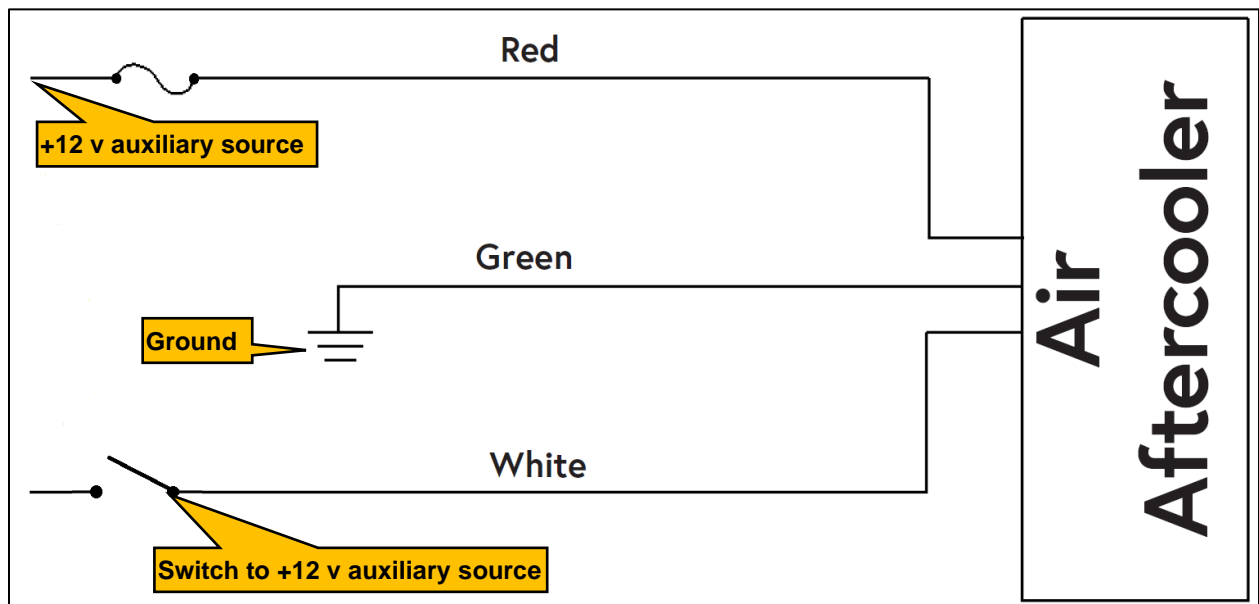

Figure 2
- In this configuration the Eliminator will be powered and operational whenever the operator switches it on (Figure 2).